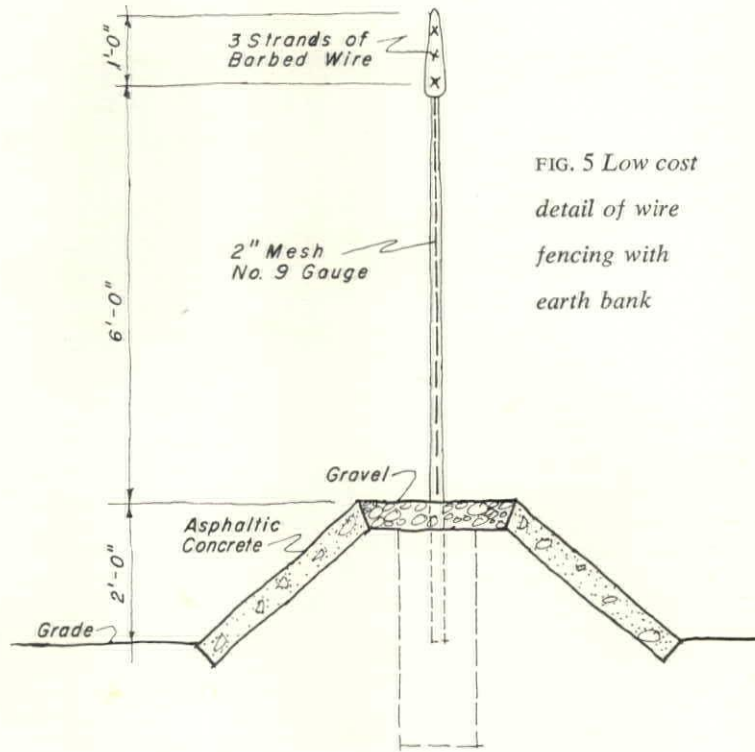

FIG. 5 Low cost detail of wire fencing with earth bank
- it is suggested that to assure sufficient clearance between canopy and top of trailer unit that a recommended vertical distance of 11' from the dock floor to the lowest underside element of the canopy be used to fix the clearance from the yard surface to the lowest underside element. (See figure 5)